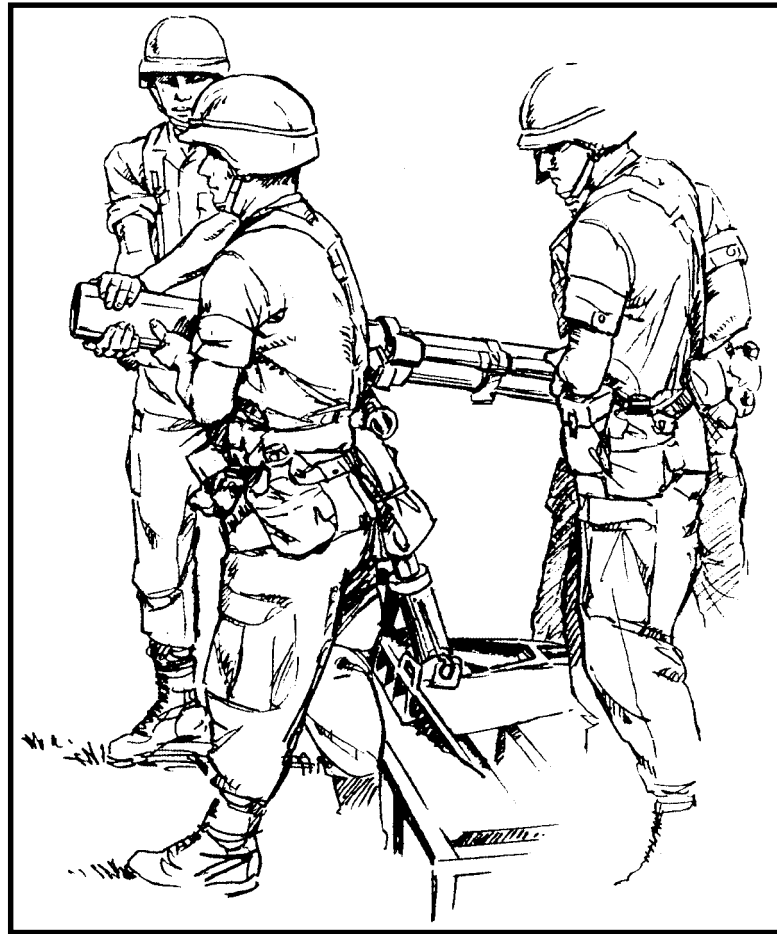

Figure 6-13. Gunner supporting the barrel.
- (1) The gunner locks the firing data on the sight, removes it, and places it in a safe place.
- (2) The gunner signals the squad to come forward and removes the sightunit.
- (3) The assistant gunner cranks the mortar barrel to its highest position in low range or to its lowest position in high range and backs off two turns.
- (4) The gunner traverses the mortar to the extreme left.
- (5) The gunner and assistant gunner tilt the mortar barrel, bridge assembly, and standard assembly to the left, allowing the cap assembly trunnion pin to slide up in the slots.
(6) The squad leader and ammunition bearer, without getting behind the mortar barrel, should carefully lift the barrel out of the bridge trunnion socket and rest it on the bridge assembly. The gunner and assistant gunner return the bridge assembly to its original position.
(7) The assistant gunner places his hands around the muzzle, making certain that no part of his hands extend over the muzzle.
(8) The gunner supports the barrel in front of the standard assembly (Figure 6-13) with his right arm around the barrel.